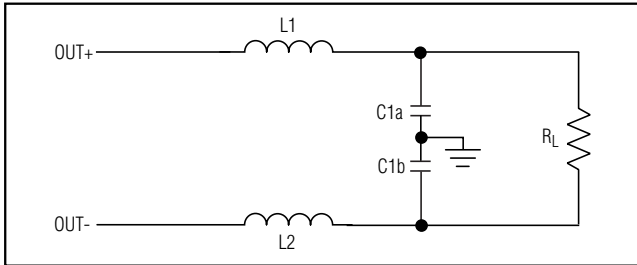
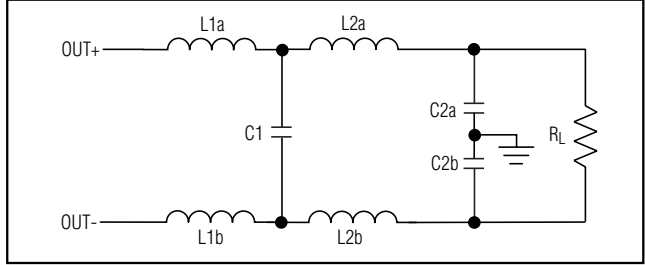

Figure 4b. Balanced 2-Pole Filter
Figure 4d. Balanced 4-Pole Filter
A Butterworth lowpass filter is chosen for its flat passband and nice phase response, though other filter implementations may also be used. Three examples are presented below. The filter parameters for balanced 2-pole (Figure 4b) and 4-pole (Figure 4d) Butterworth filters are taken from *Electronic Filter Design Handbook* by Arthur B. Williams, McGraw Hill, Inc. These filter designs assume that the load is purely resistive and load impedance is constant over frequency. Calculation of filter component values should include the DC resistance of the inductors and take into account the worst-case load scenario:
• **Balanced 2-Pole (Figure 4b):**
• **Balanced 4-Pole Filter (Figure 4d)**